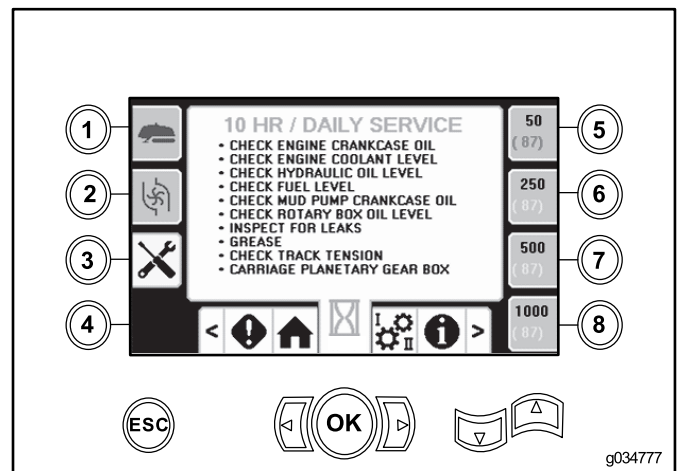

Figure 5
- Button 3 — 10-hour/Daily maintenance schedule (Figure 5)